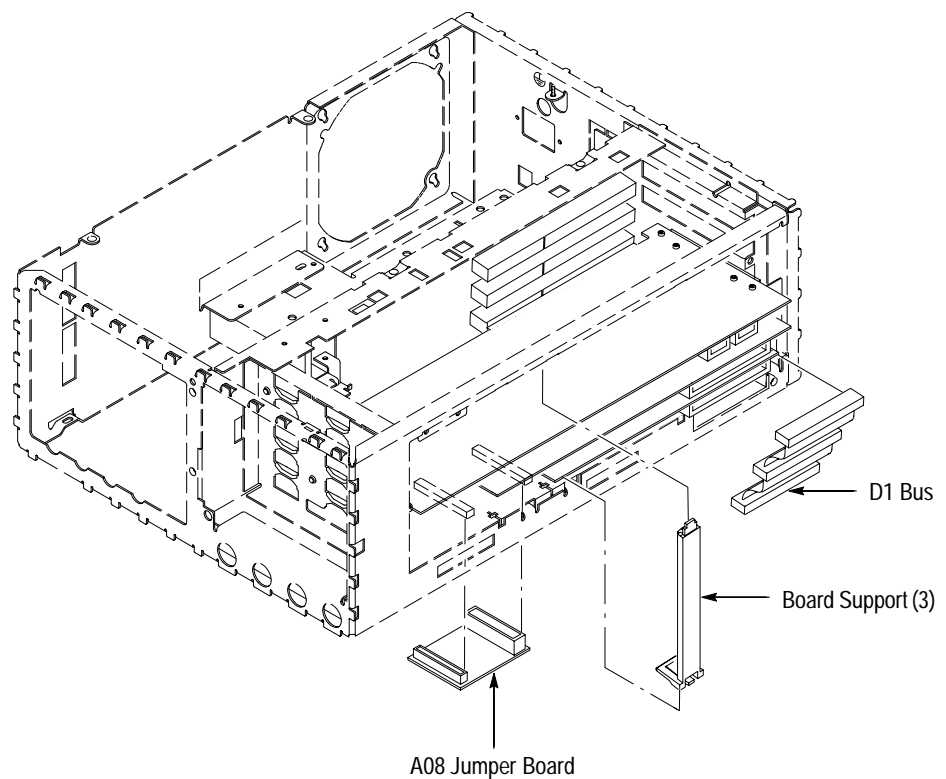

Figure 6–15: A08 Jumper Board Assembly, D1 Bus, and Board Supports Removal
1. *Locate the modules to be removed:* Find the modules to be removed in the locator diagram *Internal Modules*, (Figure 6–3 on page 6–19) or in Figure 6–4 on page 6–22.
3. *Remove the board supports:* Depress the snap lock at the bottom end of the board support and tilt the support outwards to remove from the chassis. Repeat for the second and third board supports. See Figure 6–15.
4. *Remove the D1 Bus:* Grasp the D1 bus by its cable pull tab and pull to unplug it from J1 of the Display assembly. Then grasp the cable and pull to unplug it from J3 of the acquisition assembly and J2 of the DSP assembly. See Figure 6–15.
5. *Remove the jumper board assembly:* Grasp the jumper board assembly by opposite edges and pull out to unplug it from J102 of the attenuator assembly and J9 of the acquisition assembly. Take care to pull the jumper board straight out with a minimum of rocking motion. See Figure 6–15.
2. *Assemble equipment and locate modules to be removed:* Have handy a screwdriver with a size T-15 Torx® tip (Items 1 and 2). Locate the modules to be removed in the locator diagram *Internal Modules*, Figure 6–3, page 6–19.